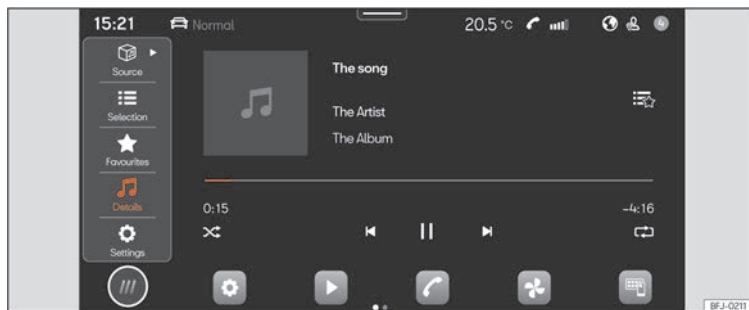

Fig.143 Schematic representation: Multimedia view
- Press **HOME** > ► ► **Fig. 143**.